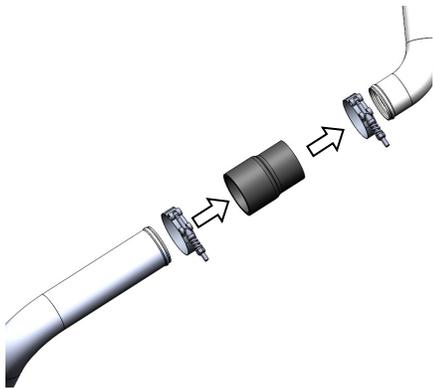

Figure 4
4. Install the **2.25” to 2.5” Hose Coupler** onto the bottom end of the **LHS Upper Intercooler Pipe**, securing it using a **2.25” Hose Clamp**. **Refer to Figure 4.**